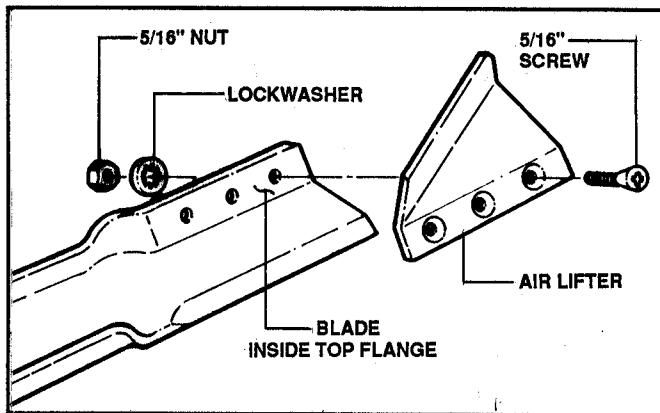

FIGURE 3.4
- A. Install air lifters on INSIDE TOP flange of blade with 5/16" screws, lockwashers and nuts. See Figure 3.4.